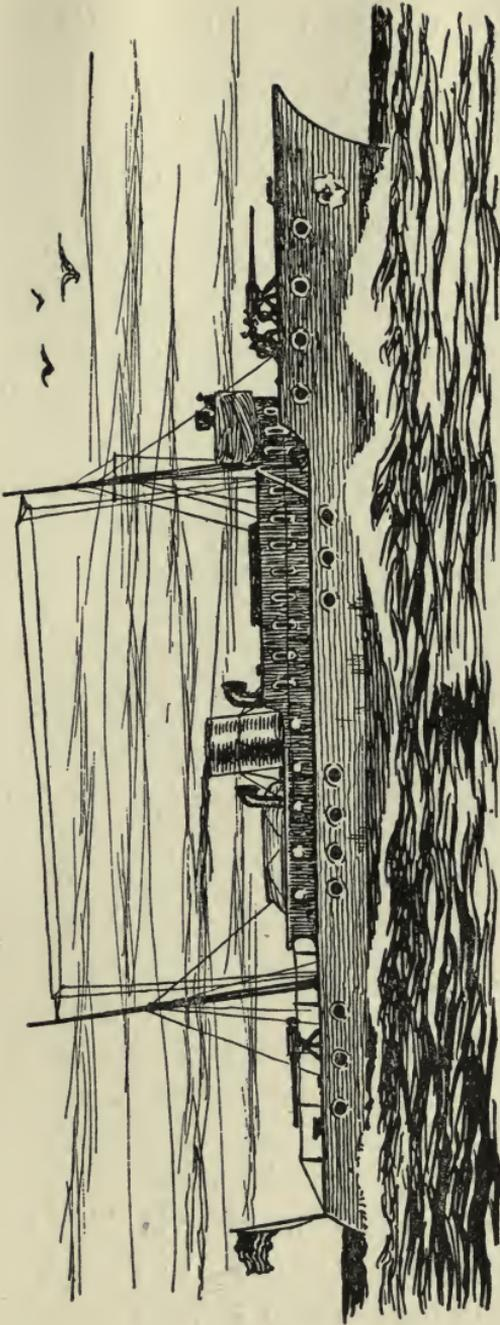

FIG. 65. 110-FOOT STEAM SUBMARINE CHASER.
*The 110-Foot Submarine Chaser.*—The only fault with the 80-footer is that its small size makes it impossible to store away enough fuel to give it a large cruising radius, and so a new type of submarine chaser is being built which is 110 feet long. Its general appearance is shown in Fig. 65.